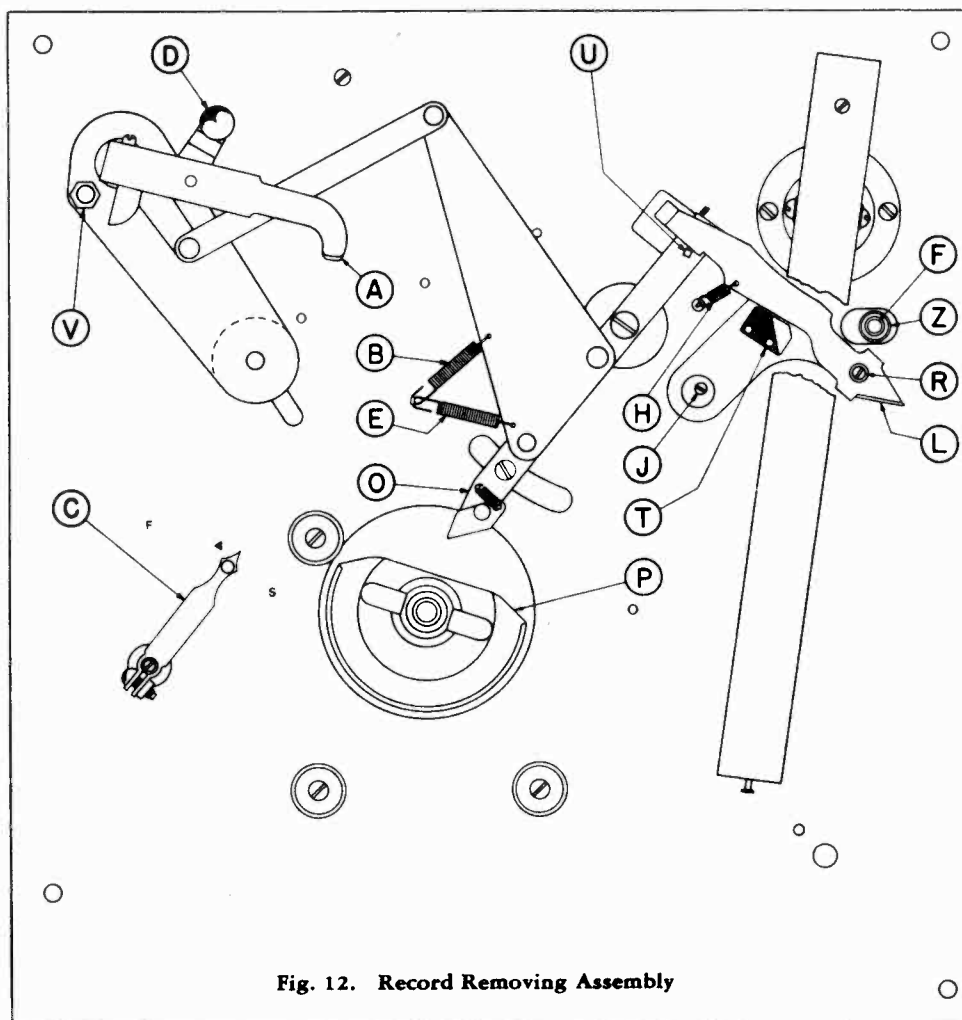
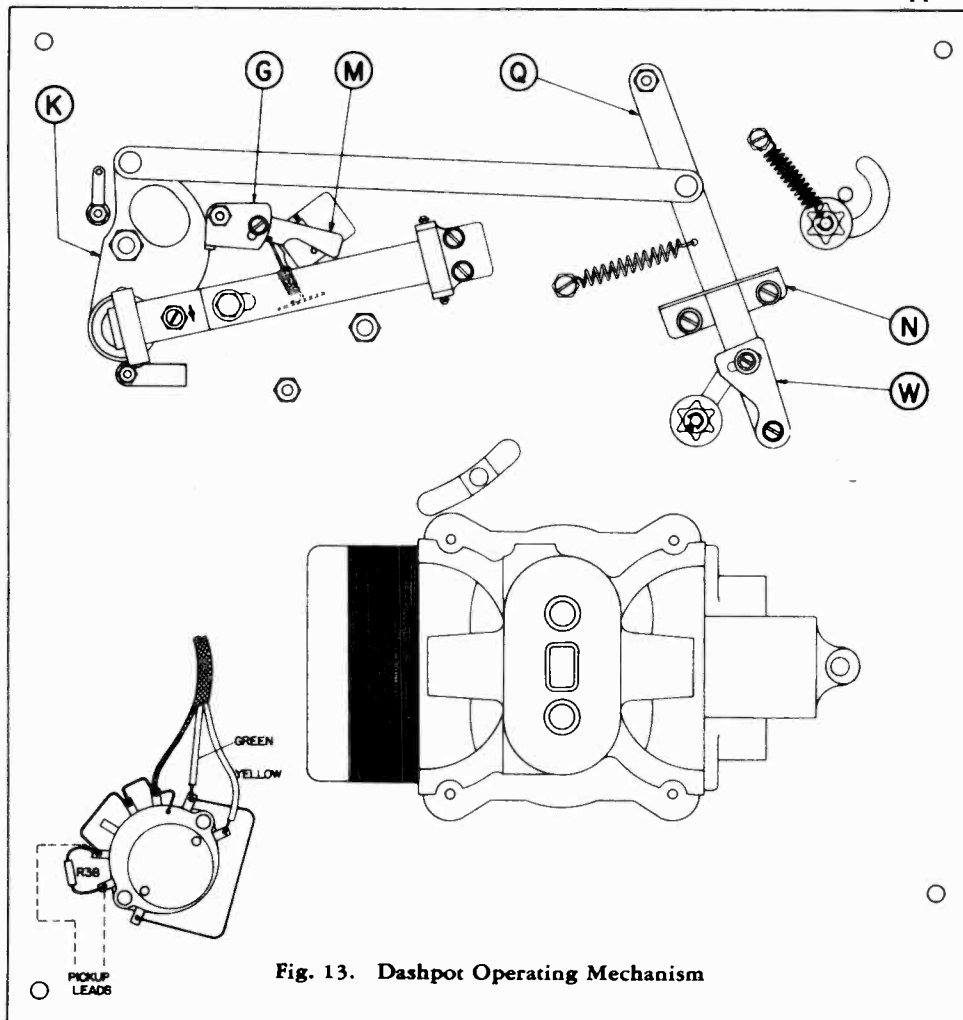
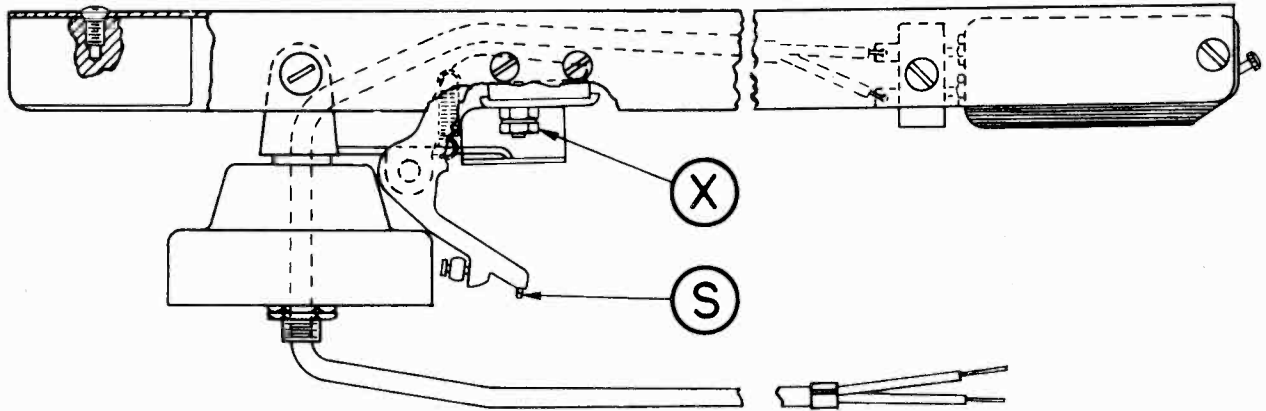
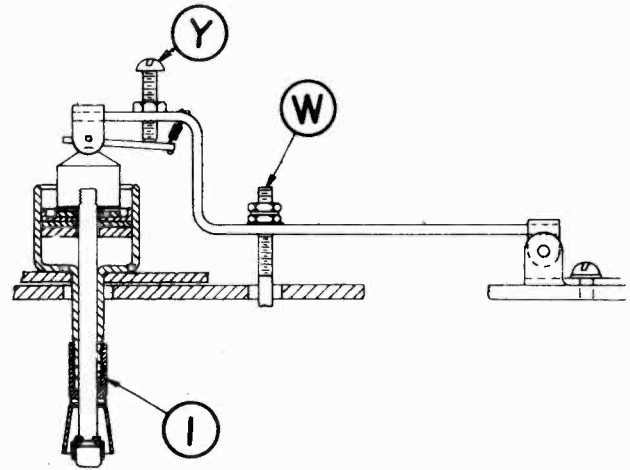

Fig. 12. Record Removing Assembly
Fig. 13. Dashpot Operating Mechanism
Fig. 15. Tonearm
Fig. 14. Dashpot and Lift Lever
Stop the motor in such a position that the unloading lever (O) Fig. 12, can swing by and clear the cam (P). Now by pulling the reject lever (L) Fig. 12, it will be found possible to swing the record removing arm over to where it just touches the edge of the record. The mechanism should move freely without binding. Place one record on the turntable and measure from the top of this record down to the base plate. This distance should be 1 inch. Now swing the record removing arm over and see that the finger just misses the top of the record. The record removing arm should rest on the stop screw which is located under the arm. This stop screw prevents the arm from dropping low enough to remove the last record.
If the record removing arm raises a record from the turntable, and drops it back in place without removing it, check the lift adjustment stud (V) Fig. 12. This adjustment consists of an eccentric stud which is provided with a locknut, and is made by loosening the locknut and turning the eccentric stud. The lift adjustment should be set so that the hole in the center of the record just clears the turntable spindle when the arm is in operation.
The tonearm lift lever (L) Fig. 12 latches with the square pin (U) on the unloading lever assembly (O), and holds this lever assembly out of engagement with the motor cam (P) while a record is being played. The square pin should engage the notch approximately one-half its depth. The depth of engagement is adjusted by the eccentric washer and screw (J).
When eccentric or oscillating trip groove records are used, tripping is effected by means of the hardened steel pin in the end of the tonearm lift crank (S) Fig. 15 engaging the serrated block on the trip lever (T) Fig. 12. Note that there must be a minimum of $\frac{1}{2}$ inch play between the end of the pin and the block, when, with a short needle ($\frac{5}{8}$ inch minimum length) the pickup is resting on one record on the turntable.
This mechanism is manually controlled by the lever (D) Fig. 12 and has three functions. First, the Record Removing Mechanism is directly shifted by the movement of the control lever and is put in a position to handle the records desired. Second, the tonearm stop (F) Fig. 12 is directly shifted from the 10-inch record position to the 12-inch record position by the movement of the control lever and places the tonearm in the correct position to play 12-inch records. Third, an automatic mechanism is provided for changing the tonearm stop from the 12-inch record position back to the 10-inch record position. This shift takes place *after* the control lever has been moved, and at a time during the cycle of normal operation of the unit when the phonograph needle is elevated above the playing surface of the record. The purpose of this delayed shifting of the tonearm stop is to prevent the phonograph needle from being dragged across the playing surface of a 12-inch record, if the control lever were for any reason thrown from the 12-inch position to the 10-inch position.
If, after putting the control lever in the 10-inch record playing position and the unit run through its complete cycle, the tonearm stop fails to shift to the 10-inch record position, check the tonearm stop latch (G) Fig. 13. This latch should be so adjusted that the latch dog clears the notch in the dashpot support plate (K) Fig. 13 by slightly less than $\frac{1}{4}$ inch when the latch bar (O) Fig. 12 is in the farthest position which the cam (P) Fig. 12 will carry it. Adjustment is made by loosening the clamping screw, and shifting the cam (M) Fig. 13 to the desired position.
If the tonearm stop (F) Fig. 12 shifts from the 12-inch record position to the 10-inch record position simultaneously as the control lever (D) Fig. 12 is moved from the 12-inch record position to the 10-inch record position, then check the pickup stop latch (G) Fig. 13. This latch must work freely with no binding. If the pickup stop latch works freely but the dashpot support plate (K) Fig. 13 is not being swung far enough for the notch to engage the pickup stop latch (with the control lever (D) Fig. 12 in the 12-inch record position), then adjust the cam (W) Fig. 13. This adjustment must be set so that the latch just drops into the notch with practically no clearance.
CAUTION: If any change is made in the setting of the cam (W) Fig. 13 then all of the adjustments described under "Tonearm Lowering Mechanism" must be checked.
The tonearm lowering mechanism has two functions. First it lowers the phonograph needle gently to the surface of the record approximately $\frac{1}{2}$ inch in from the edge of the record. This is accomplished by the stop (X) Fig. 15 on the underside of the tonearm coming in contact with the floating collar (Z) Fig. 12 on the dashpot stem as the tonearm swings outwardly. Note that as the tonearm stops strikes the floating collar, the collar is tilted against the dashpot stem, the dashpot stem acting as a stop. The tonearm support shelf now comes
The second function of the tonearm lowering mechanism concerns the feeding of the needle in toward the center of the record so that the needle will enter the playing groove. This feeding in of the needle takes place after the needle comes in contact with the record and at a time when the tip of the dashpot drops away from the tonearm support shelf allowing the floating collar (Z) Fig. 12 to right itself. As the floating collar drops back to its normal position the needle is fed in toward the center of the record.
If the tonearm descends too fast or too slow, adjust the speed of descent by turning the knurled thumb nut (I) Fig. 14 on the dashpot.
1. Set the control lever (D) Fig. 12 in the 12-inch record playing position, and with a 12-inch record on the turntable, stop the unit with the tonearm in the maximum raised position. Then check the clearance between the underside of the tonearm support shelf and the tip of the dashpot. This clearance must be very slight or the tonearm will tend to bounce as it is lowered. There must be sufficient clearance however to allow the tonearm to swing out far enough so that the stop (X) Fig. 15 on the underside of the tonearm will tilt the floating collar (Z) Fig. 12 against the dashpot stem and form a positive stop. If adjustment is required, the height of the dashpot may be regulated by loosening the nuts on the bottom of the lift lever stud (W) Fig. 14 and changing their position on the stud. To raise the dashpot turn the nuts clockwise. Be sure to lock the nuts tightly together after adjustment is made.
2. Start the unit in motion and allow the tonearm to descend. If the needle does not set down on the record approximately $\frac{3}{8}$ inch in from the edge of the record, change the position of the stop (X) Fig. 15 on the underside of the tonearm until the needle does set down approximately $\frac{3}{8}$ inch in. To adjust the position of the stop (X) Fig. 15 turn the screw on the side of the tonearm.
3. Set the control lever (D) Fig. 12 in the 10-inch record playing position, and with a 10-inch record on the turntable, stop the unit with the tonearm in the maximum raised position. Now grasp the tonearm and swing it outwardly to make sure it is firmly against the stop. Now start the unit in motion. The needle should set down on the record approximately $\frac{3}{8}$ inch in from the edge of the record. If adjustment is required, loosen the clamping screws which hold the stop plate N Fig. 13 on the underside of the base plate, sufficiently so that the stop plate may be tapped with gentle blows in the direction desired. To allow the needle to be set down farther away from the center of the record, move the stop plate in a direction away from the dashpot. After resetting the stop plate, lock it in place and repeat the procedure outlined from the beginning of adjustment No. 3. When the adjustment is completed, give the stop plate locking screws a final tightening to assure that the stop plate is firmly located, or the lever (Q) Fig. 13 in snapping from the 12-inch record playing position to the 10-inch record playing position will shift the stop plate from its correct setting.
4. With control lever (D) Fig. 12 in the 10-inch record playing position and with a 10-inch record on the turntable, stop the unit with the tonearm in the maximum raised position. Then check the clearance between the underside of the tonearm support shelf and the tip of the dashpot. This clearance must be very slight (see adjustment No. 1). If adjustment is required, the height of the dashpot may be regulated by means of the adjusting screw (Y) Fig. 14 on the underside of the dashpot lift lever. Be sure to tighten the lock nut after making this adjustment.